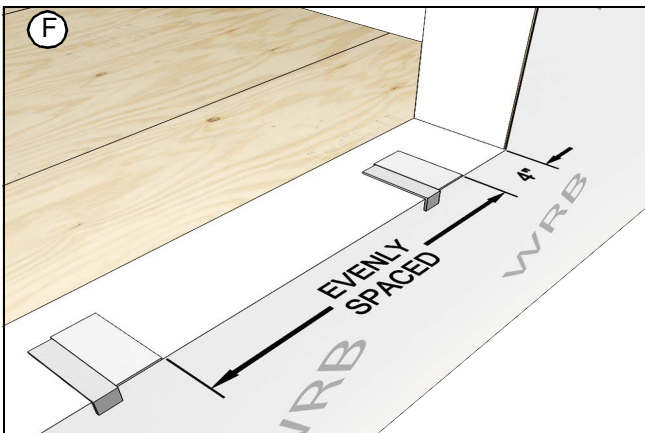

Figure 8
8. Using **Kit F**, apply four adhesive backed shims applied to sill. See Figure 8.